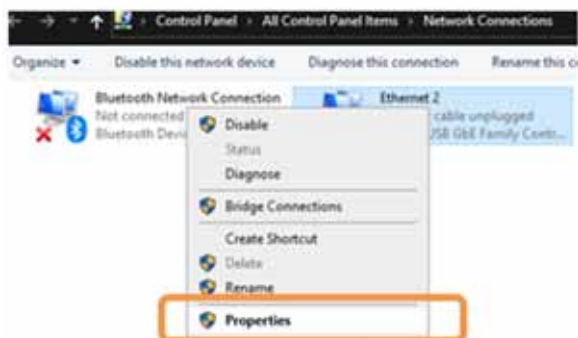

Figure 1-7. Adjust Ethernet adapter characteristics
- Adjust the characteristics of the Ethernet adapter in use (right mouse button; Fig. 1-7).